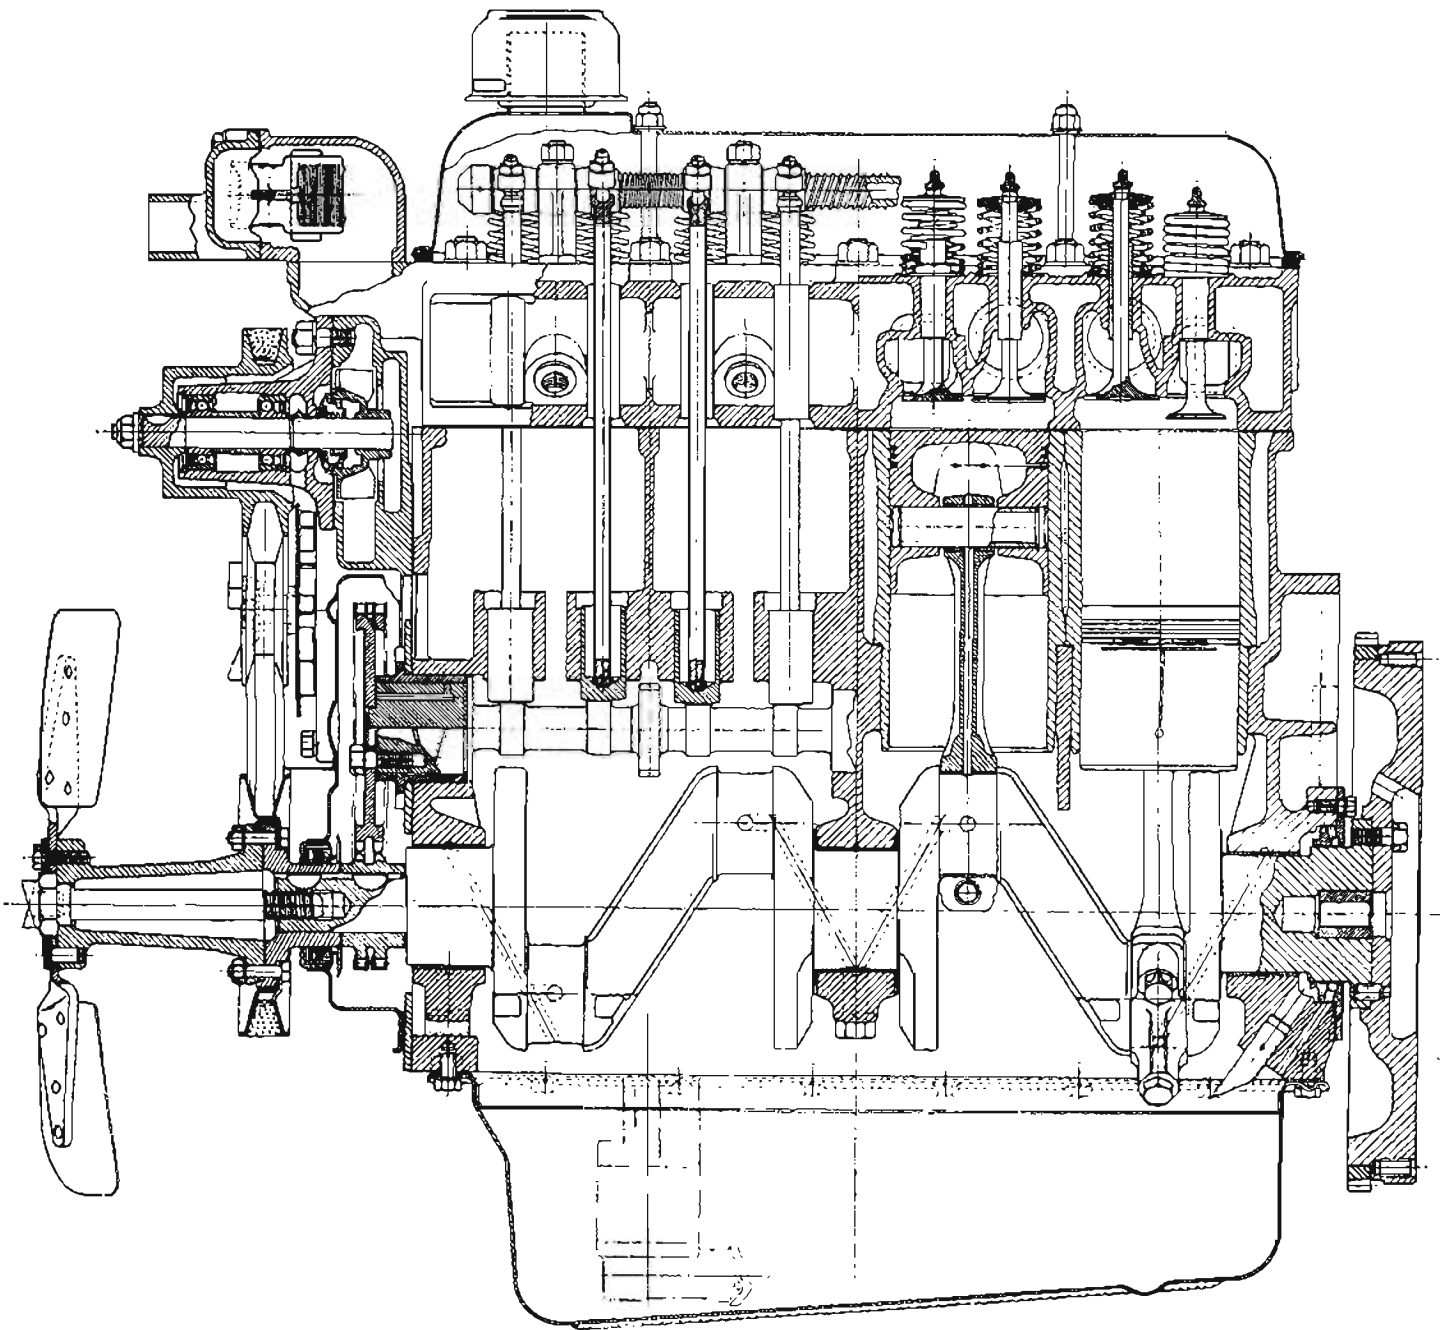

Fig. 1 Longitudinal view of Engine. For illustration purposes the sump oil filter has been omitted.
I. GENERAL DESCRIPTION (Figs. 1 and 2)